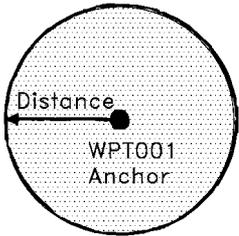

Figure 4-4 Anchor Description.
4.3.6.12 Figure 4-4 shows a representation of an anchor. After entering a distance to define the radius of the anchor and enabling the anchor alert, the PLGR alerts the user of departure from the anchor (shown in gray).